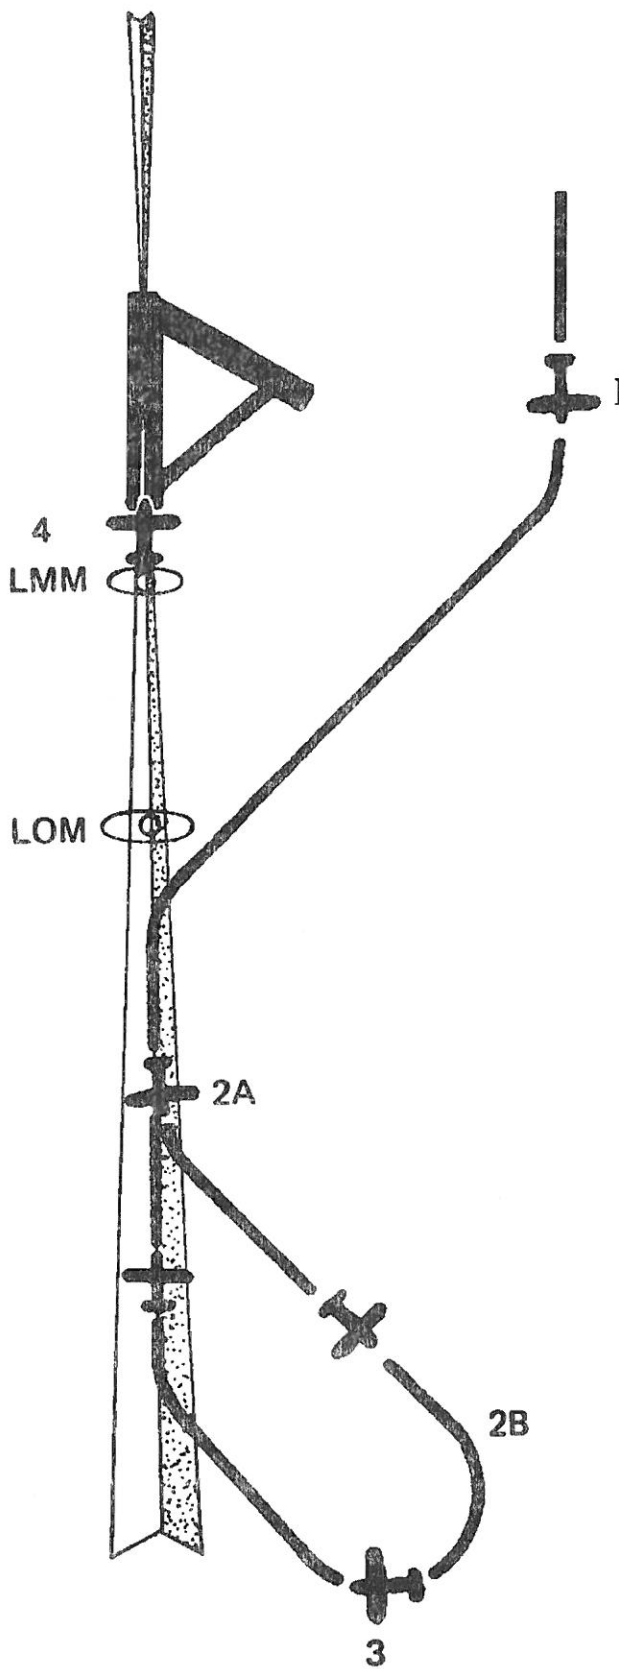

FIG. 14
**ILS APPROACH-- NORMAL (See Fig.14)**
4. At the Decision Height (DH), or when missed approach is elected, position mode selector to HDG mode and execute missed approach procedure.